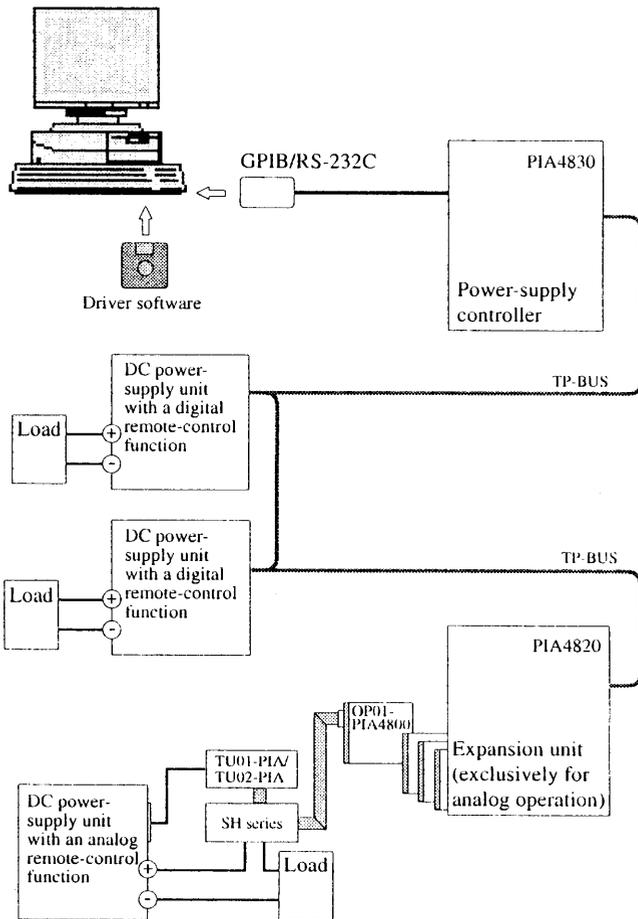

Fig. 1 System Configuration
All control operations are performed from a personal computer (PC) via GPIB or RS-232C. Fig. 1 shows the system configuration. First, a PC is connected to the PIA4830 with a GPIB or RS-232C. To control a DC power-supply unit with a digital remote-control function, the PIA4830 is directly connected to the power-supply unit using a TP-BUS connector. When a DC power-supply unit with an analog remote-control function is controlled, the expansion unit PIA4820 is connected to the power-supply unit with a TP-BUS connector. The PIA4820 must be equipped with the control board OP01-PIA or OP02-PIA. For details on the PIA4820, OP01-PIA, and OP02-PIA, refer to the PIA4820 Operation Manual.